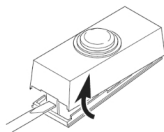

Figure 1
1. **Remove orange battery tab from push button.** Remove back of case by pushing in tab on bottom with a small screwdriver (see Figure 1). Remove orange battery tab.